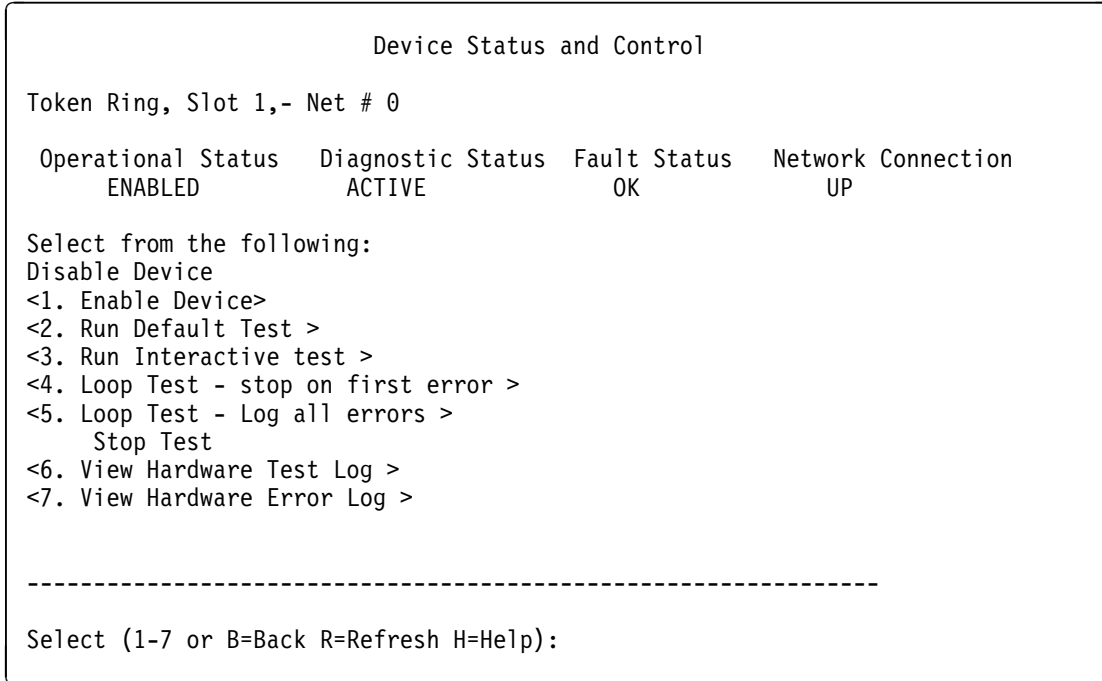

Figure 6-3. Device Status and Control Panel (Device Disabled)
4. If you select the Token-Ring interface (<1. **Token Ring**> on the Device List panel), the Device Status and Control panel for the Token-Ring adapter appears (Figure 6-3).